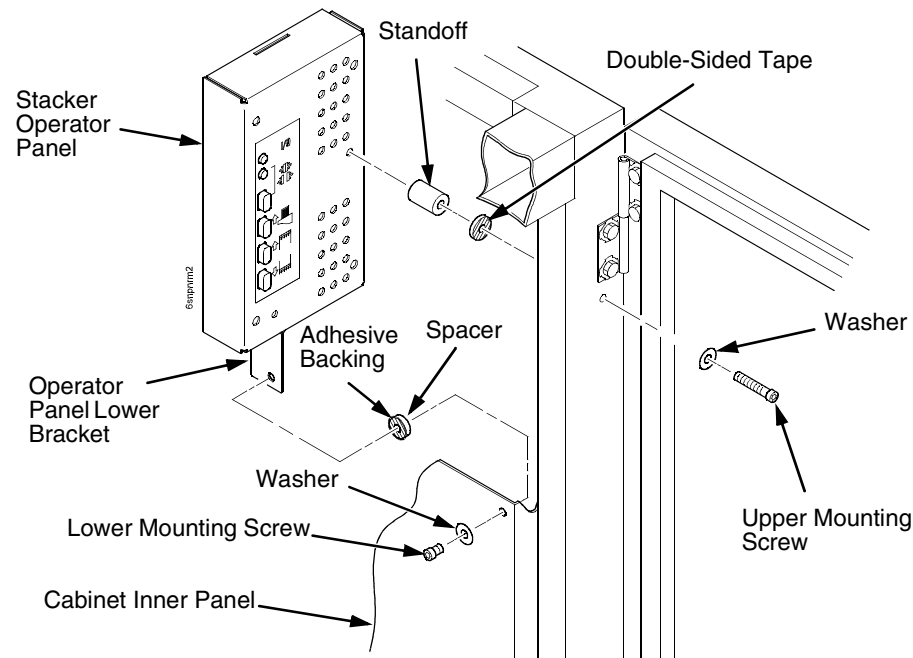

Figure 76. This figure shows how to install the stacker operator panel in the rear of the cabinet.
18. Apply the double-sided tape to one end of the operator panel standoff. Remove the paper backing and hold the standoff inside the cabinet while you insert the upper mounting screw and washer through the hole in the frame. Use the screw as a guide to align the standoff with the hole, then press the standoff against the inside wall and push the upper screw in as far as it will go. Now maneuver the operator panel into position and install the upper mounting screw finger tight in the operator panel. (Figure 76.)
- 1) Peel the backing off the spacer adhesive. (Figure 76.)
- 2) Align the spacer with the holes in the lower bracket and inner panel. (Figure 76.)
- 3) Press the spacer adhesive against the inner panel. (Figure 76.)
20. Install the lower mounting screw and washer. Tighten the upper mounting screw. (Figure 76.)